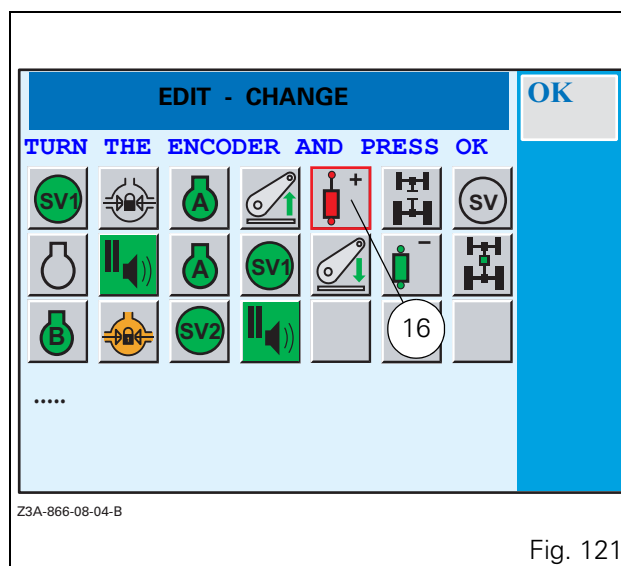

Fig. 121
- Select an action by rotating the encoder. The question mark is replaced by an action. (e.g.: 16 Fig. 121)